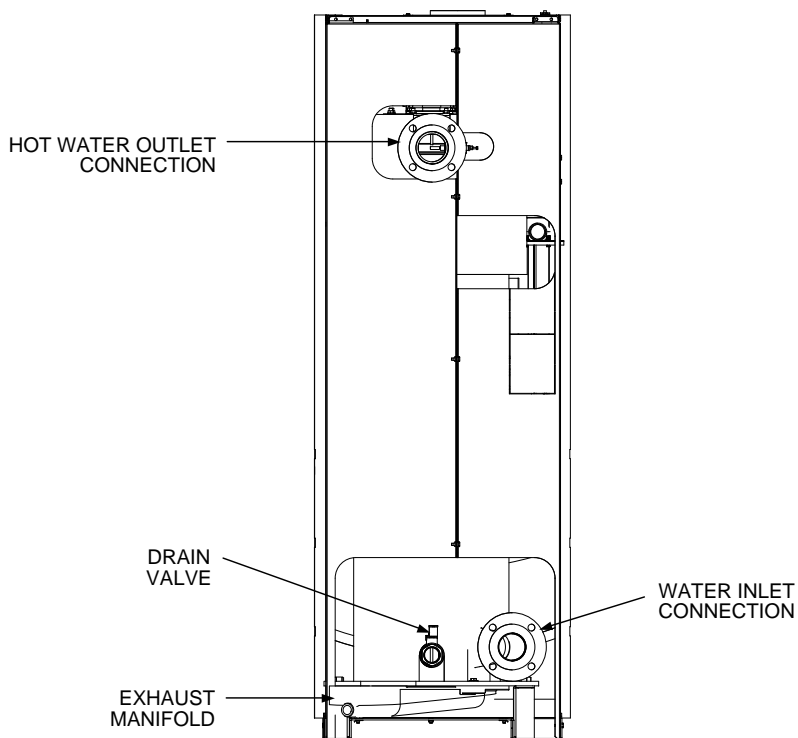

Figure 3. Benchmark 1.5LN - (Rear View)
3. At the rear of the unit (Figure 3), slowly open the drain valve and drain the boiler water from the heat exchanger.